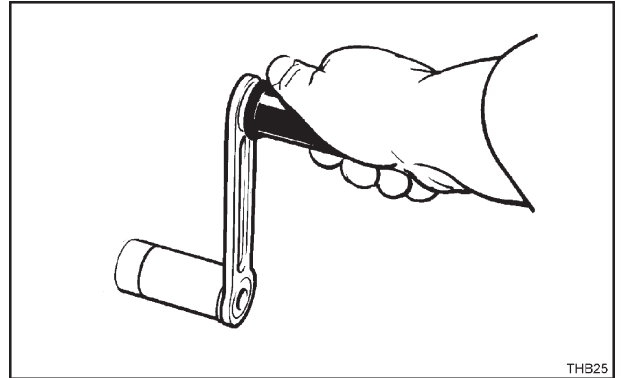

Figure 4.1.2 Holding the Starting Handle
7. Firmly hold the handle grip, with the thumb on top of the grip as shown in 'Figure 4.1.2', and crank the engine really fast, when sufficient speed is obtained move the decompressor lever towards the gear end and continue to crank until the engine fires.